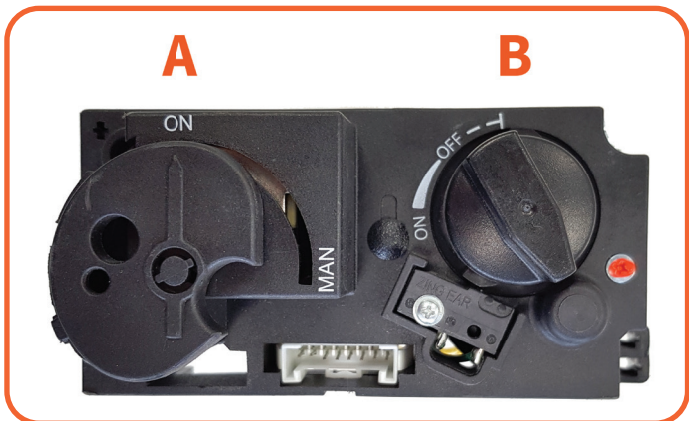

Figure 4.3 | Gas Block
Check that the control knob (A) is in the ON position (Figure 4.3). Press the button on/off button of your remote control and continue to hold down (3 to 5 sec.) until you hear two short beeps.
After starting the pilot, knob B will automatically rotate counter clockwise and the main burner will start burning (Fig 4.3). Always wait 5 minutes after killing the pilot light before you start the pilot flame again.